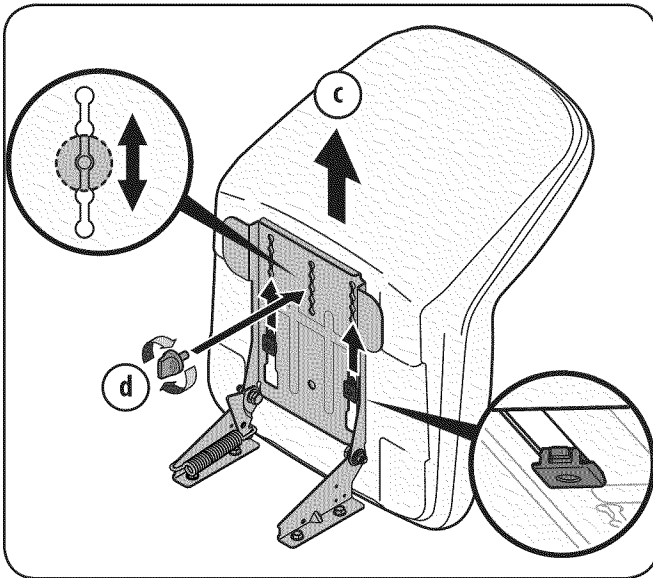

Figure 3-6
3. Slide the seat rearward in the seat pivot bracket (c), lining up the center rear slot in the pivot bracket with the remaining hole in the seat’s base. See Figure 3-6.
Note: Be certain the two seat tabs engage the pivot bracket as shown in the bottom inset of Figure 3-6.
4. Select desired position for the seat, and secure with the adjustment knob removed earlier (d in Figure 3-6).
- To adjust the position of the seat, remove the adjustment knob on the bottom of the seat. Slide the seat forward or backward as desired. Reinstall the adjustment knob. See Figure 3-6.